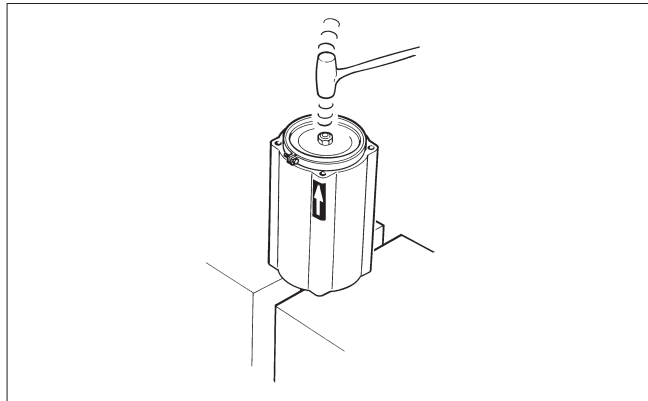

Fig. 13 Placing the piston in the cylinder
- Hammer or press the piston into the cylinder through the tie ring. Note the indicator arrow direction. See Fig. 13.
- Install new O-rings (19). Replace cylinder end and install cylinder with piston. Note the location of the air supply port: it must correspond to the exhaust air port in the cylinder base. Tighten screws (31); the torque is given in Table 2.